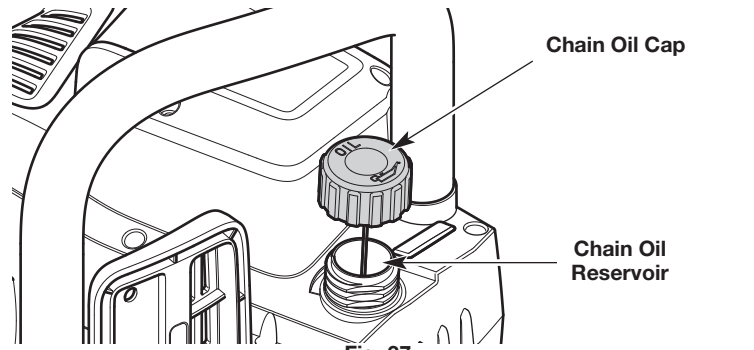

Fig. 37
1. **Set the unit on a flat, level surface. Position the unit with the chain oil cap facing up (Fig. 37).**
3. Unscrew the chain oil cap (Fig. 37).